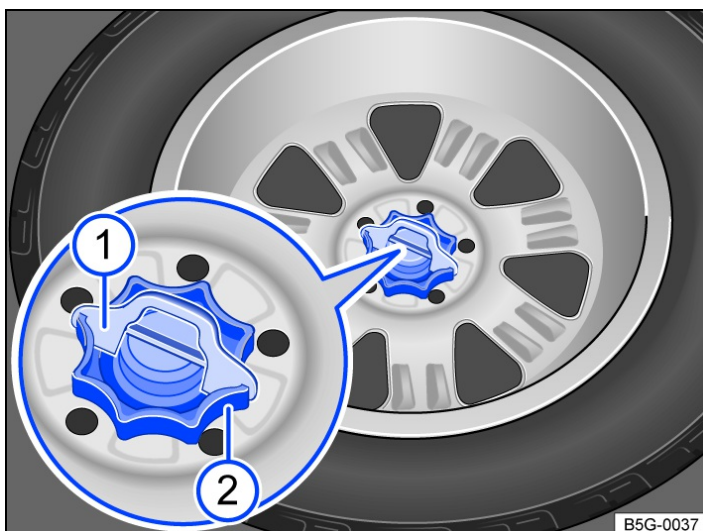

Fig. 1 In the luggage compartment: handwheel for securing the spare wheel.
- Pull out the wedge of the locating element → Fig. 1 ① in upward direction.
- Fully unscrew the handwheel in the middle of the spare wheel → Fig. 1 ② in an anti-clockwise direction.